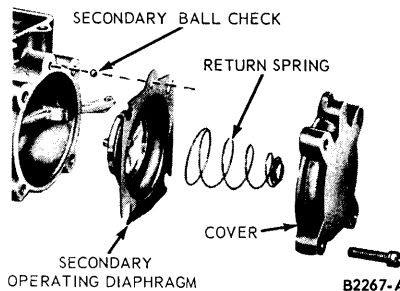

FIG. 21—Secondary Diaphragm Assembly
7. Remove the secondary diaphragm operating rod retainer and remove the rod. Remove the diaphragm cover, return spring, and diaphragm (Fig. 21). Invert the main body and let the secondary ball check fall into the hand.
10. Drop the secondary discharge ball check into the passage in the main body (Fig. 21).